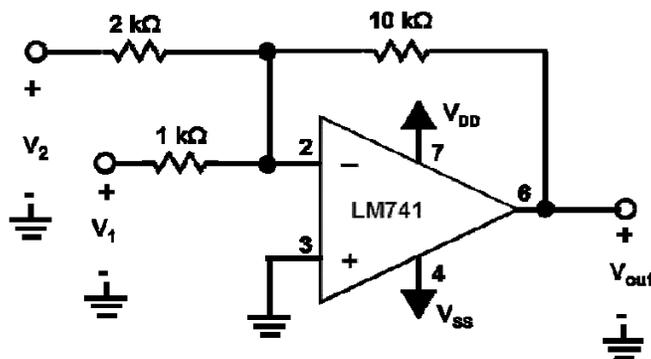

Figure 5: The summing amplifier
13. On your breadboard, build the op amp circuit shown in Figure 5.